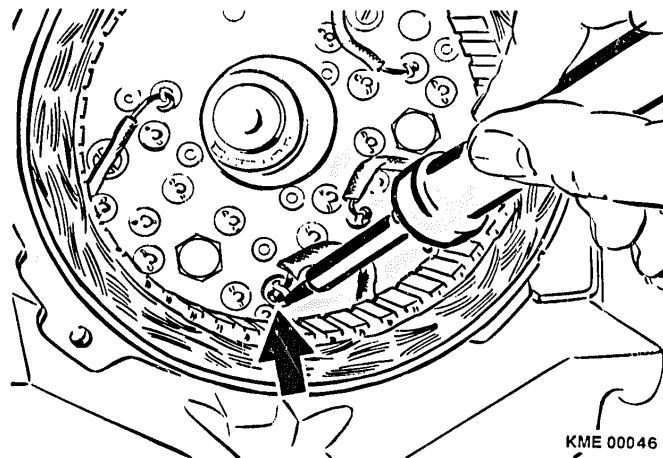

Figure 35 Soldering of Stator Leads
3. Place each of the stator leads into a corresponding soldering lug of the rectifier assembly. After the lead is through the soldering lug, bend the lead so it forms a U around the lug. (Figure 35)